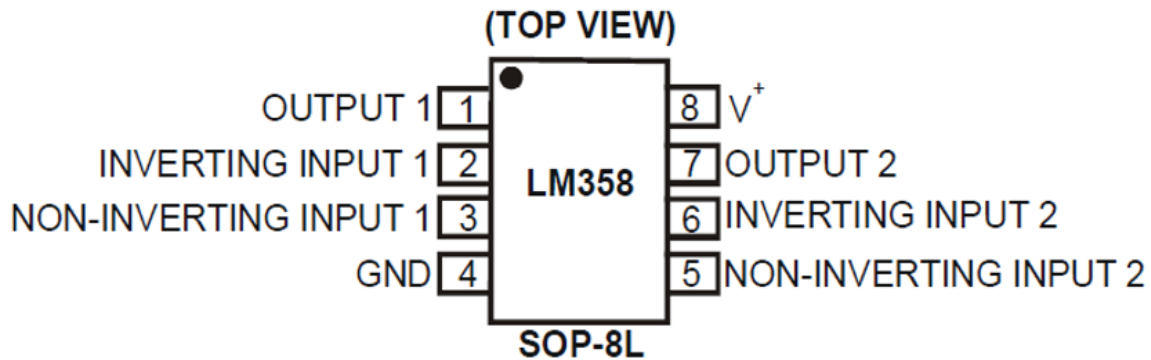

Figure 3: LM358 pinout
1. Build the band-pass filter circuit on the breadboard using your designed component values. Refer to the LM358 in Figure 3.